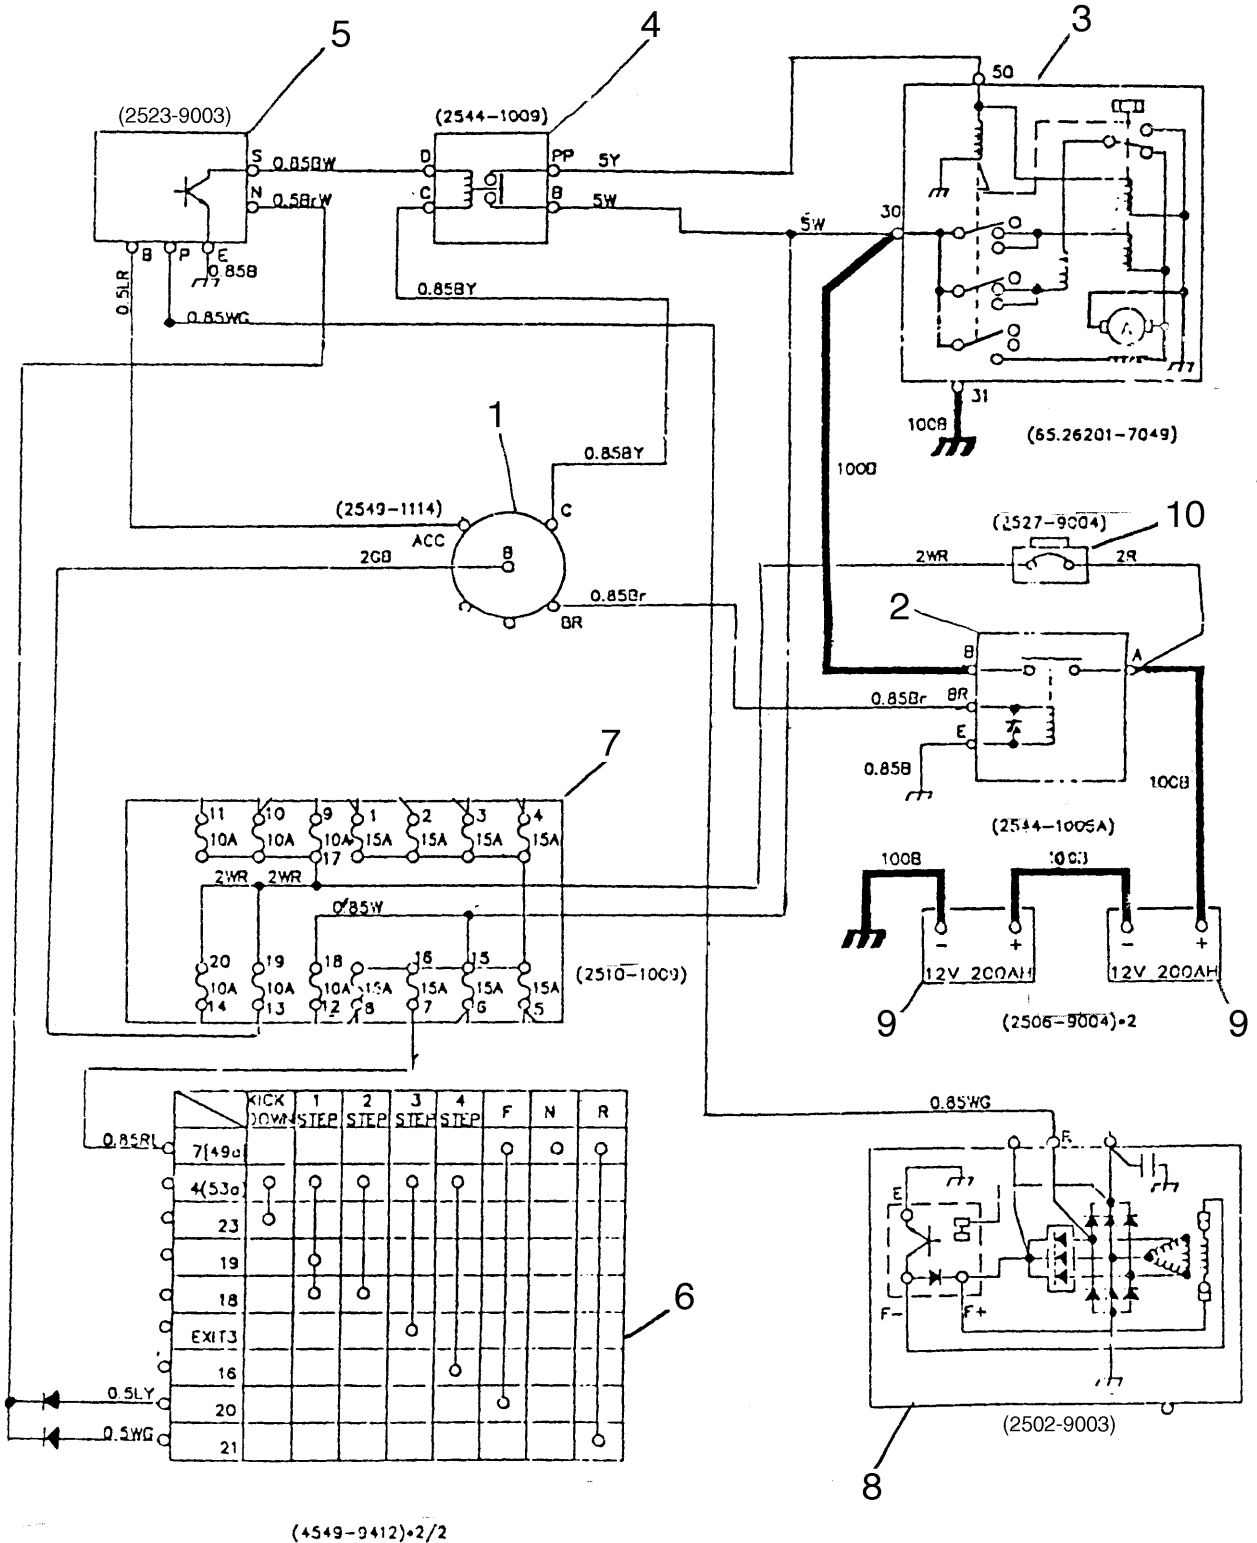

FIGURE 9-1
When the ignition switch (1, Figure 9-1) is turned to START, terminal BR of (1) is energized and this conducts current to terminal BR of battery relay (2). This closes the contacts of (2) and this connects the batteries to terminal 30 of starter (3) and terminal B of start relay (4). When the ignition switch (1) is turned to the START position, current flows from terminal C of the starter switch to terminal C of the start relay (4). Current then flows through the start relay coil and out terminal D, on to the starter controller (5) terminal S and out terminal E to ground. This closes the contact in the start relay (4). This directs current flow from terminal PP of (4) to terminal 50 of the starter (3), and this causes the starter to rotate and crank the engine. The engine can be cranked only when the gear select switch (6) is in the NEUTRAL position. If the gear select switch (6) is in FORWARD or REVERSE, the current that flows from the switch (6) to the starter controller (5) opens the path to ground for the start relay (4). This prevents the start relay (4) from closing.
When the alternator is being driven, terminal R of the alternator (8, Figure 9-1) sends a square wave signal to terminal P of the starter controller (5). The size of the signal is directly related to the speed of the alternator. When the alternator reaches a speed of 500 RPM, the signal to the controller (5) causes it to create an open in the circuit between terminals S and E inside the controller (5). This causes an open in the ground path for current that powers the start relay (4). This opens the contact in the start relay (4) and prevents the starter (3) from cranking. The square wave signal prevents the engine from driving the starter motor if the key is held in the START position after the engine starts. The square wave signal also prevents the starter motor from being damaged if the start key is turned to start when the engine is running.